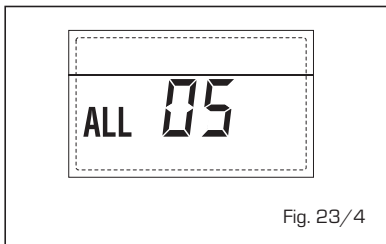

Fig. 23/4
- **FLAME BLOCK ALARM 06** (fig. 23/5)